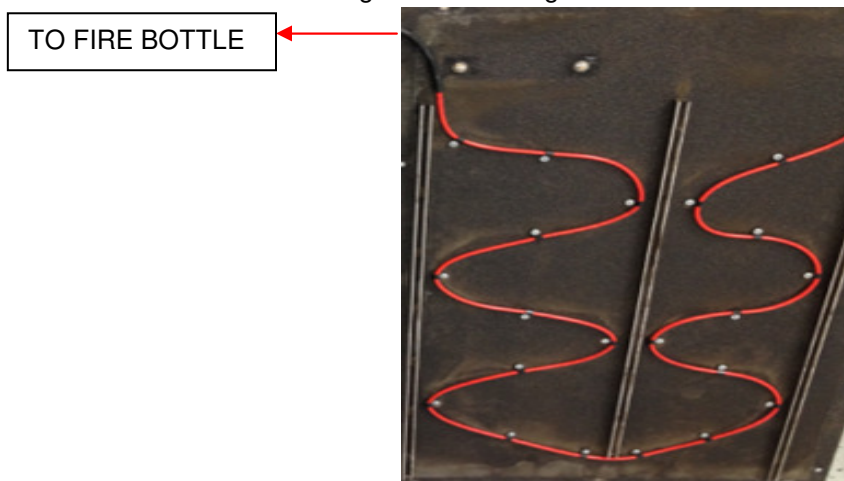

Fig 7 – Fire suppression routing
- i. Route the fire suppression line back on master pack cabinet cover using twenty two 1/8" aluminum rivets (**NFI PN 60R02007**) and twenty two #4 flat washers (**NFI PN 10W94000**) to secure clamps to the cabinet cover. Make sure to follow the same pattern of original route. Basically, the fire suppression hose end will be on opposite side as original configuration. Place a small amount of silicone (**NFI PN 401722**) over the rivets to ensure a water tight seal. See Fig 7.